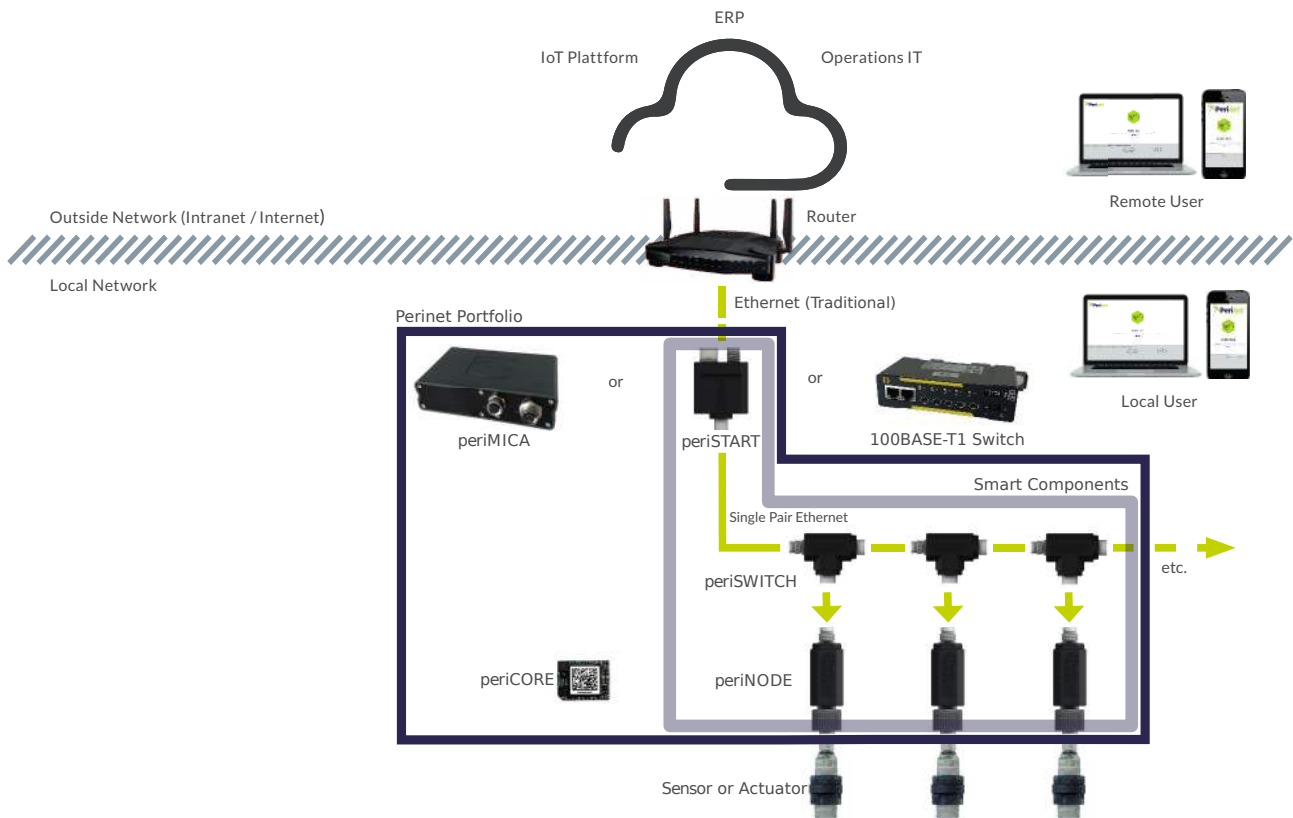

Figure 1: Perinet Seamless IoT Connectivity System
Perinet also provides containers for functionalities needed on field level in (I)IoT applications, typically, e.g. a local MQTT broker. It is therefore the first stop for data traveling from sensors or actuators to the cloud. The sensors and actuators are connected preferably via network, as shown in Figure 1, in combination with our other products. In the same time, the periMICA is ideal as bus master for non-Ethernet sensors as well.